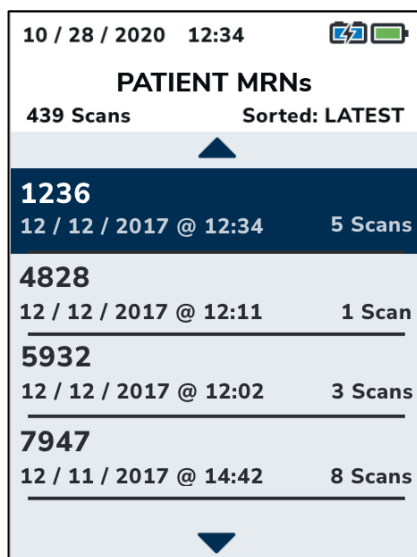

Figure 3-12: List of all MRNs
4. In the list of patient MRNs select the required patient and click on enter button to view the measurements of that patient, as shown in Figure 3-12.